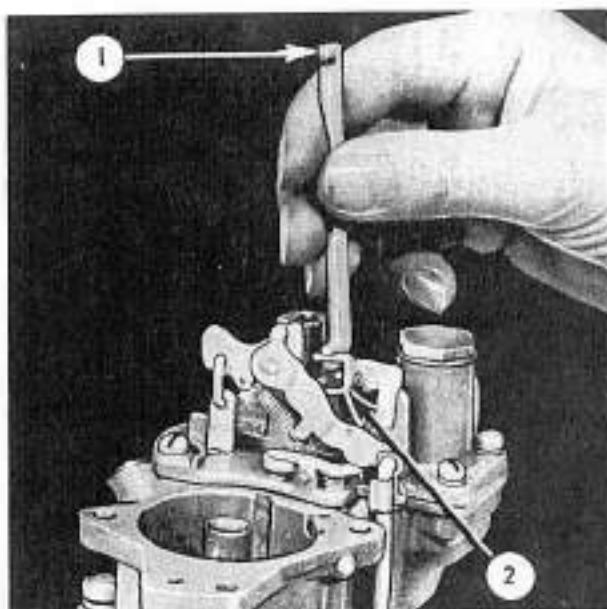

FIG. 408
If an adjustment is necessary, using Adjusting Tool T-109-105 (1, Fig. 408), bend the top finger of the vacuum piston link (2) to obtain the proper clearance.